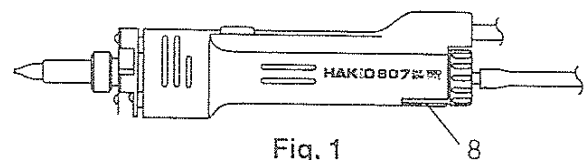

Fig. 1
4. Remove the housing fastener (8). Fig. 1.